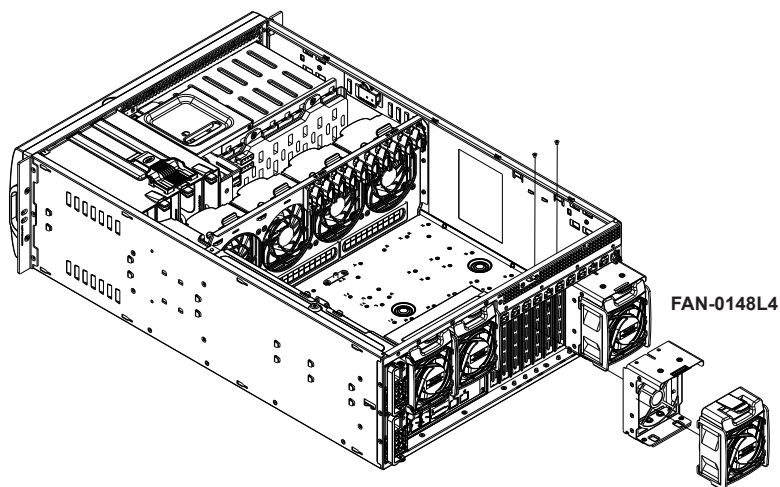

**Figure 6-19. GPU Kit Air Shroud Installed**
13. Install the GPU air shroud. (Figure 6-19)